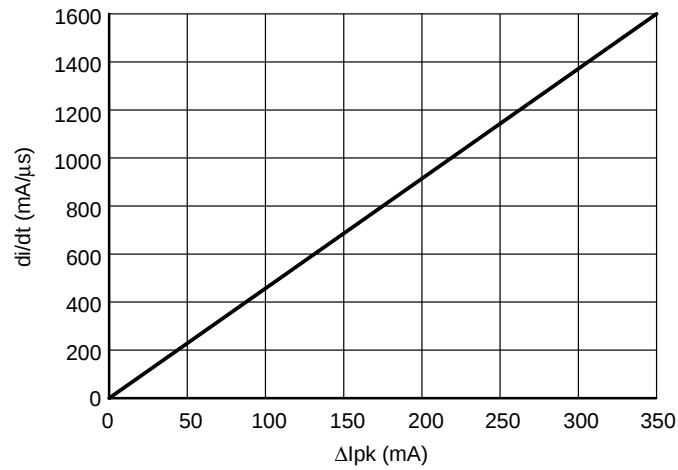

Figure 16. Power Switch Circuit di/dt vs. ΔIpk
- Actual peak switch current is increased due to the propagation delay time and the di/dt (see Figure 16).
The current limit propagation delay time is typically 220 ns. This time is measured from when an overcurrent appears at the Power Switch Circuit drain, to the beginning of turn-off. Care must be taken during transformer saturation so that the maximum device current limit rating is not exceeded. To determine the peak Power Switch Circuit current at turn off, the effect of the propagation delay must be taken into account. To do this, use the appropriate Current Limit Threshold value from the electrical tables, and then add the ΔI_{pk} based on the di/dt from Figure 16. The di/dt of the circuit can be calculated by the following formula: